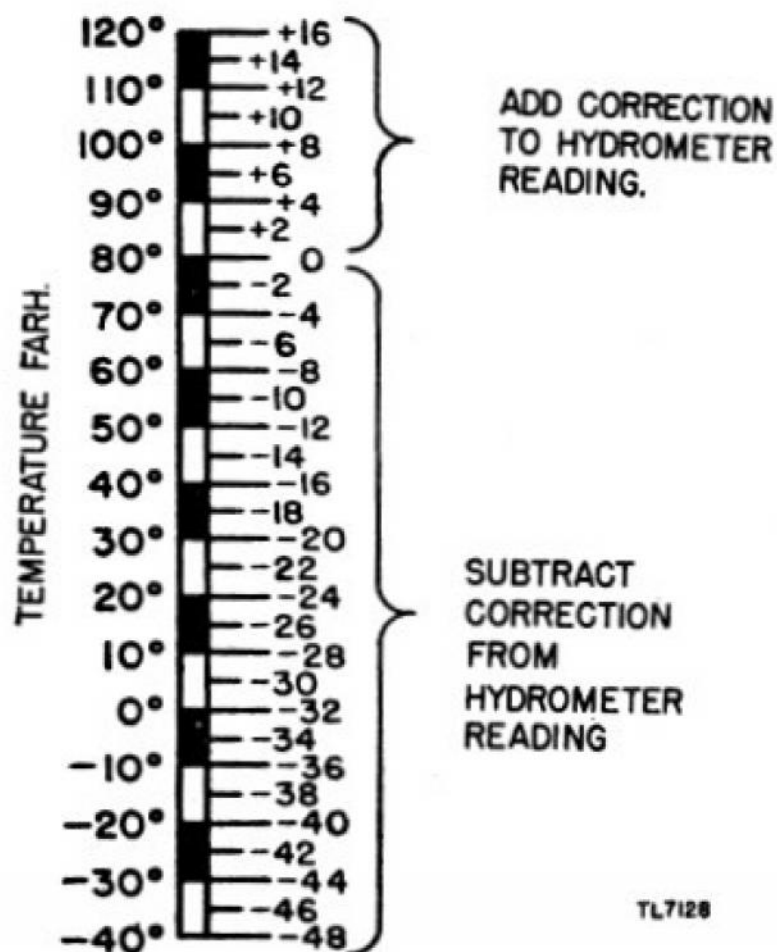

Figure 33. Corrections for hydrometer readings.
b. USE OF BATTERY HYDROMETER. The battery hydrometer is provided with a graduated float. This float is usually graduated from 1.100 to 1.325. A fully charged battery will normally show a specific gravity reading of between 1.275 and 1.295 when the temperature of the battery solution (electrolyte) is 80° F. Corrections of hydrometer readings must be made to compensate for temperatures above or below 80° F. The accompanying table (fig. 33) indicates the correction necessary for various temperatures of the battery solution.
b. **TESTING WINDINGS.** (1) *General.* Most of the following testing instructions may be accomplished without disassembling the generator. In each instance where an exciter armature winding or an alternator field winding test open-circuited, short-circuited, or grounded check to see if the trouble is in the leads outside of the winding proper, and if not, report the trouble to the proper authority. These tests require a 6- or 12-volt battery, a 3- to 4-candle power, 6- or 12-volt lamp, two test leads with prods and a lamp socket in series, with one test lead as illustrated in figure 33. Before starting the tests, remove the cover from the exciter, lift all brushes high in their holders, and set the ends of the springs against them, so that the brushes will be held up. Disconnect the four stator winding cables from posts No. 4, 5, 7, and 8 of the a-c terminal block and the large exciter cable from the right-hand terminal of the solenoid starting switch. See the wiring diagram (figs. 30 and 31). Tag the cables in order to avoid error in replacing them. In using the test prods, make sure that good electrical connection is made at points of contact.